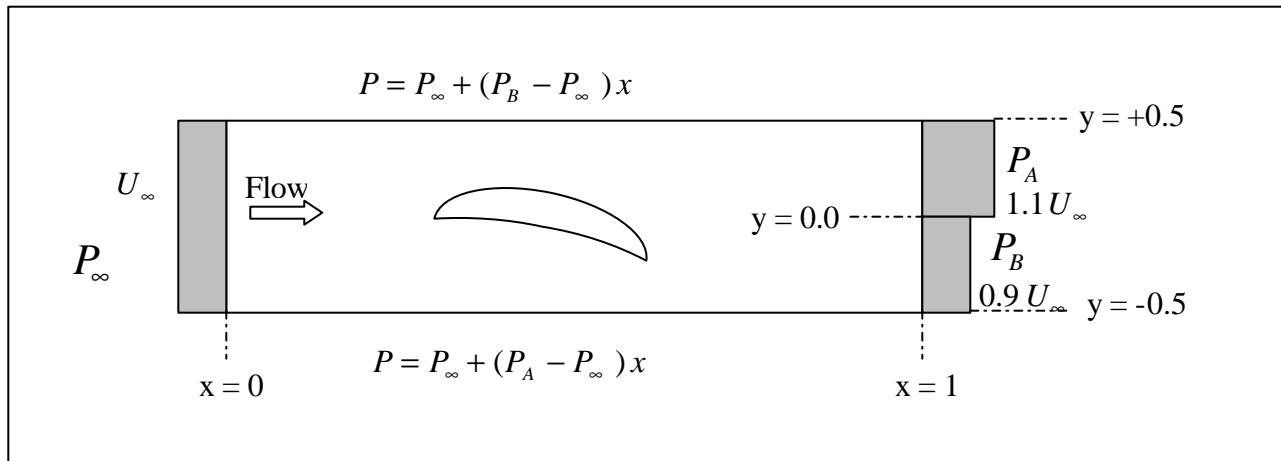

Figure 2: Contour data for pre-lab (3).
- 3) Figure 2 below shows a contour in the fluid around a foil where the pressure and velocity around the foil have been measured or can be inferred from Bernoulli's relation. For this example assume Bernoulli's equation is valid everywhere.